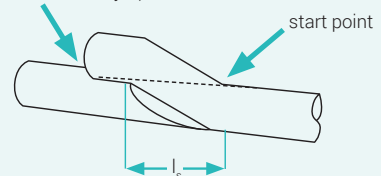

figure 4
- Complete the installation by overlapping the sealing tape over the skived end and mark the start and end points for the second skive cut (figure 4).